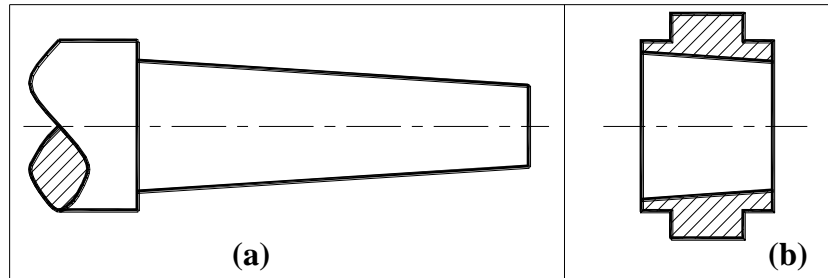

FIGURE T4.6
6. 6. DIMENSION THE TAPERED FEATURES SHOWN IN *FIGURE T4.6 (A) & (B)*.